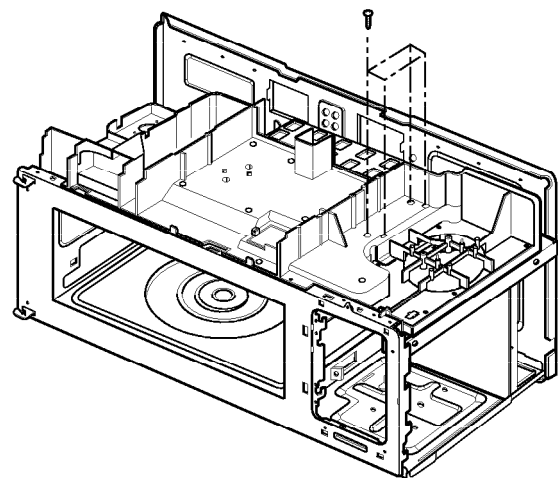

Figure 21
- (5) Remove four tap tite screws securing the magnetron to the wave guide. (Figure 21)
- (6) Remove the magnetron VERY CAREFULLY.